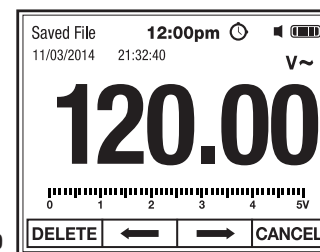

Fig. 19
4. Use the F2 $\leftarrow$ and F3 $\rightarrow$ soft keys (Fig. 19) to select other Saved Files as shown in Step 2.
5. Press the F1 DELETE soft key to delete Saved File (Fig. 19).
6. Press the F4 CANCEL soft key to return to Measurements without deleting (Fig. 19).